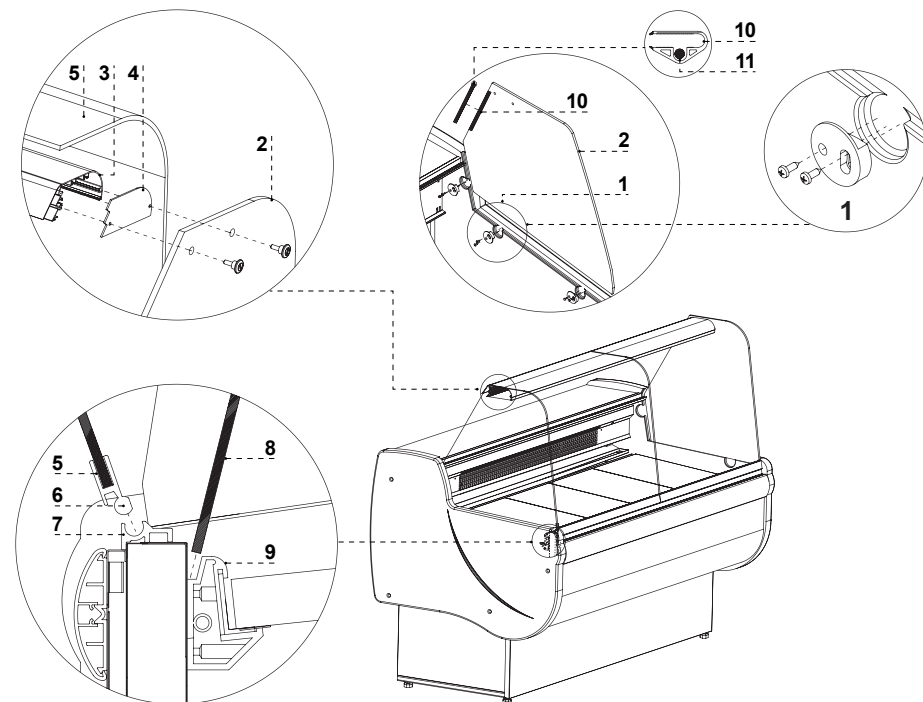

Fig.4 Assembly of glass elements and aluminium lamp
2. Mount glass sides Fig.4/2;1
3. Mount the aluminium lamp (together with lighting) on glass sides Fig.4/3
4. Mount the casing of lamp conduit Fig.4/10
5. Mount front screen Fig.4/8
6. Mount front glasses of the display cabinet Fig.4/5